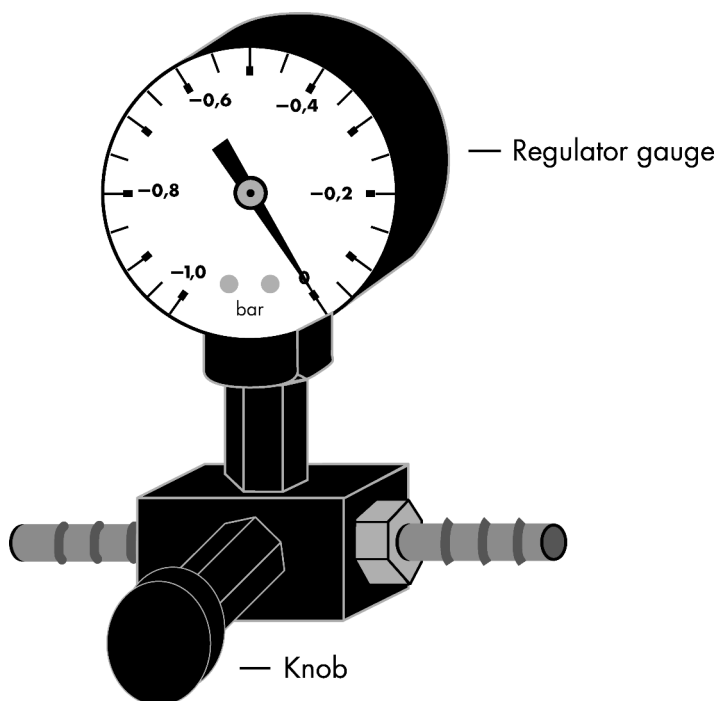

Figure 2. Schematic diagram of the Vacuum Regulator.
- The vacuum pressure is the pressure differential between the inside of the vacuum manifold and the atmosphere (standard atmospheric pressure 1013 millibar or 760 mm Hg) and can be measured using the QIAvac Connecting System or a vacuum regulator (see Figure 2). The vacuum protocol requires a vacuum pump capable of producing a vacuum of –800 to –900 mbar (e.g., QIAGEN, Vacuum Pump). Higher vacuum pressures must be avoided. Use of vacuum pressures lower than recommended may reduce DNA yield and purity and increase the frequency of clogged membranes.
Switch off the vacuum between steps to ensure that a consistent, even vacuum is applied during processing. For faster vacuum release, a vacuum regulator should be used (see Figure 2).